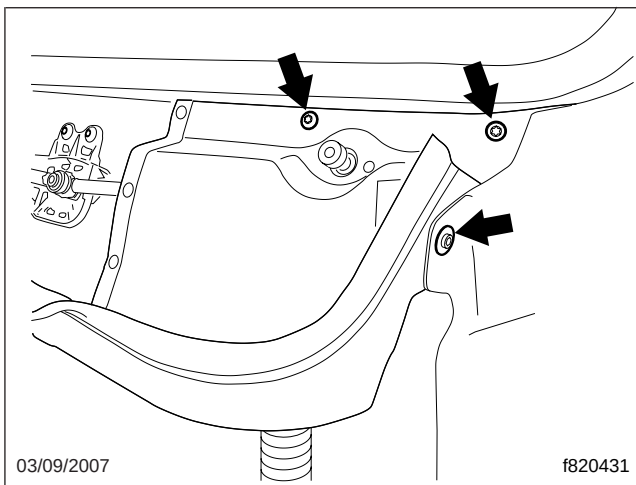

Fig. 5, Left-Side Rain Tray Fasteners
- 8.2 Remove the screw that attaches the left-hand rain tray to the cowl side panel; see Fig. 5.
- 6.1 Push the washer tube fitting into the hole in the left-hand rain tray. Attach the rain-tray to the windshield support with two screws; see Fig. 5. Tighten the screws 8 to 12 lbf·ft (11 to 16 N·m). Ensure that the tray seals evenly with the windshield support, with no gaps or bumps.